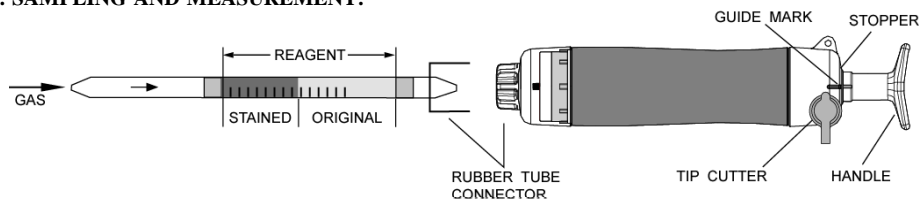

Fig.1
- ② Insert the detector tube into aspirating pump securely as shown in Fig.1. (Arrow mark shall point to the pump.)
- ③ Align the guide marks on the shaft and stopper of the aspirating pump.
- ④ Pull the pump handle at full stroke until it locks and wait for 2 minutes or until the completion of sampling is confirmed with the flow indicator of the pump (See descriptions about the flow indicator in the instructions of the pump).
- ⑤ On completion of sampling, read the scale at the maximum point of the stained layer.